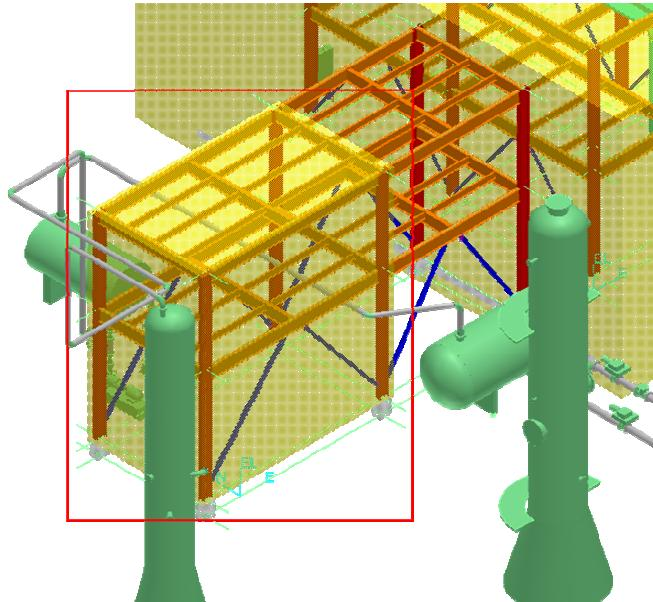

Figure 6 Final Output - After Placing the Volume
- ii) Place a drawing volume under the space folder **Drawing Volumes** in Unit **U02** of your workspace by using the **Place Drawing Volume by Selection** command. The view of the model after placing the volume should resemble Figure 6.